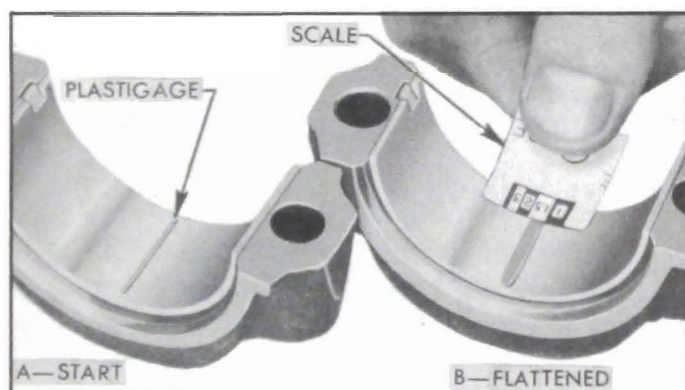

Figure 2-30—Checking Bearing Clearance with Plastigage
2. Place a piece of Plastigage lengthwise along the bottom center of the lower bearing shell (fig. 2-30, view A), then install cap with shell and tighten bolt nuts to 40-45 ft. lbs. torque. NOTE: *The rib on edge of cap and the conical boss on web of rod must be toward rear of engine on all rods in right bank or toward front of engine in left bank.*
5. Using the scale printed on the Plastigage envelope, measure the flattened Plastigage at its widest point. The number within the graduation which most closely corresponds to the width of Plastigage indicates the bearing clearance in thousandths of an inch. See figure 2-30, view B.